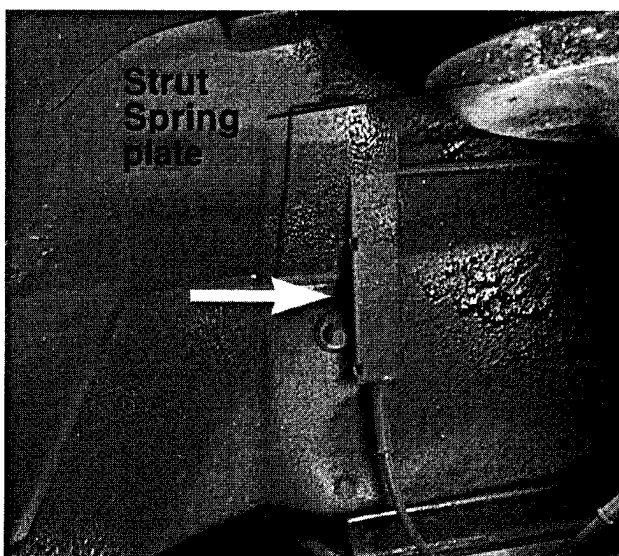

Fig. 19. Front ABS wheel speed electrical connector (arrow) in wheel well.
3. Front ABS sensor: Working in front wheel housing, disconnect and remove sensor. See Fig. 19.